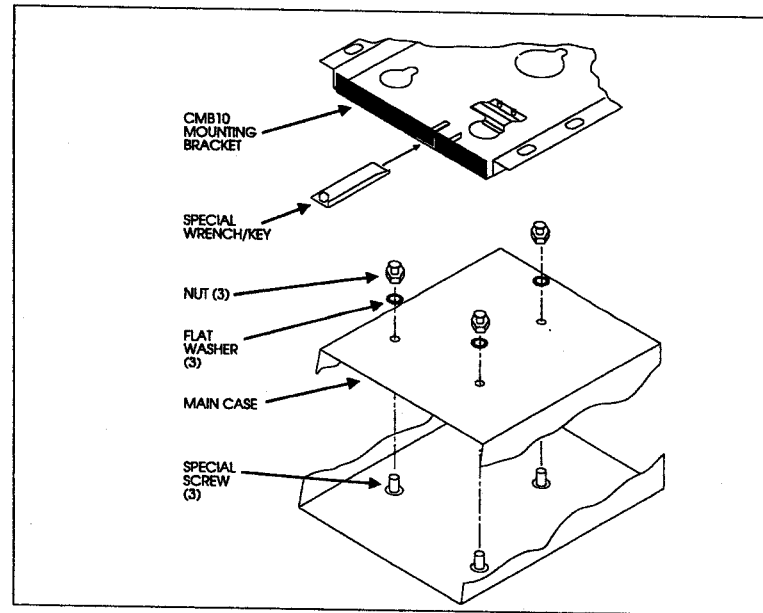

Figure 3. CMB10 (Optional) Mounting Bracket Installation
Refer to Figure 3 for the following procedure.
11. To remove the LH5, insert the special wrench/key into the key slot as shown in Figure 3. The LH5 can then be removed by simply pulling it forward.